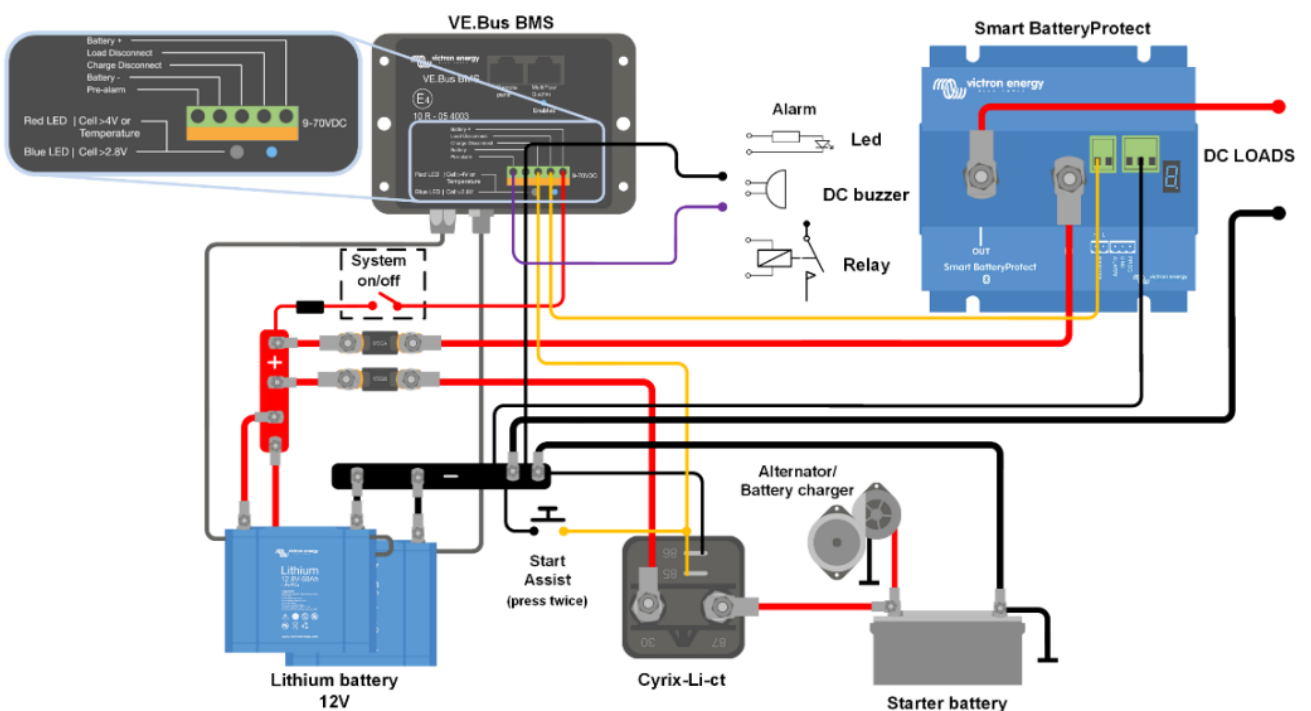

Figure 6: DC only system for a boat or vehicle with parallel connection of the starter- and Li-ion battery
3.6 Charging the LiFePO₄ battery with an alternator See figure 6.